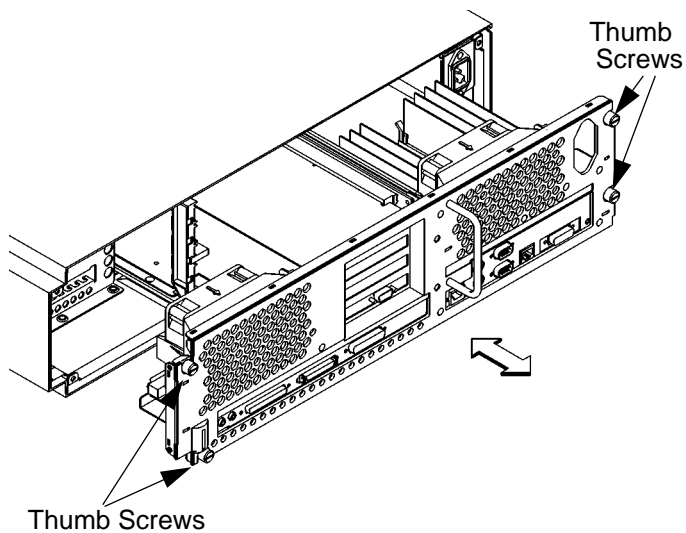

Figure 2
- 1 Completely loosen the four thumb screws on the rear of the system unit, as shown in Figure 2.
- 2 Place one hand on the top of the system unit and push, while pulling the handle on the rear panel with your other hand. See Figure 2.